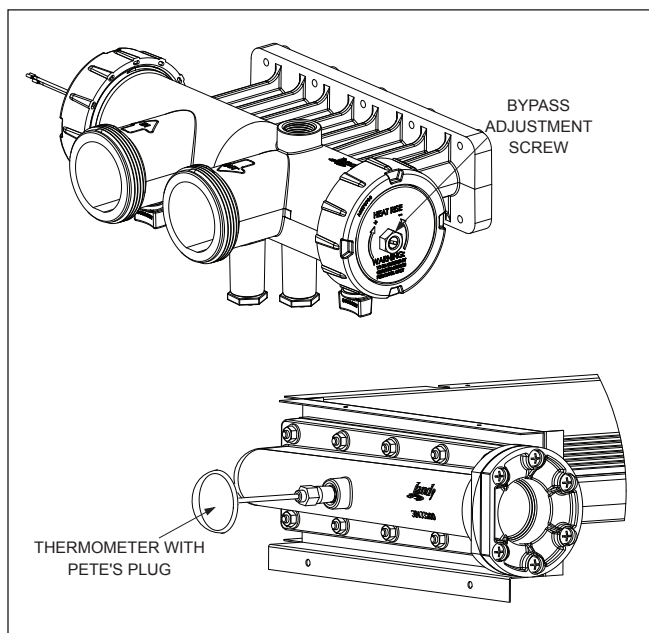

Figure 20. Temperature Rise Measurement
and remove the plastic plug protruding through the cabinet on the return header side of the heater. See Figure 20. With the plug removed, install the special thread adapter and Pete's Plug®\* fitting and insert a pocket thermometer. A temperature rise measurement kit is available through your Jandy distributor. See Section 11 of this manual for the correct kit number.
6. Locate the bypass adjustment screw on the right-hand side of the header (see Figure 20). Loosen the nut so that the screw can be adjusted. A slight water leak past the nut may be expected. Turn the screw counterclockwise to decrease the temperature rise, and clockwise to increase the temperature rise as needed to achieve the ranges in Table 6. After the adjustment, tighten the nut so that no leaks occur.